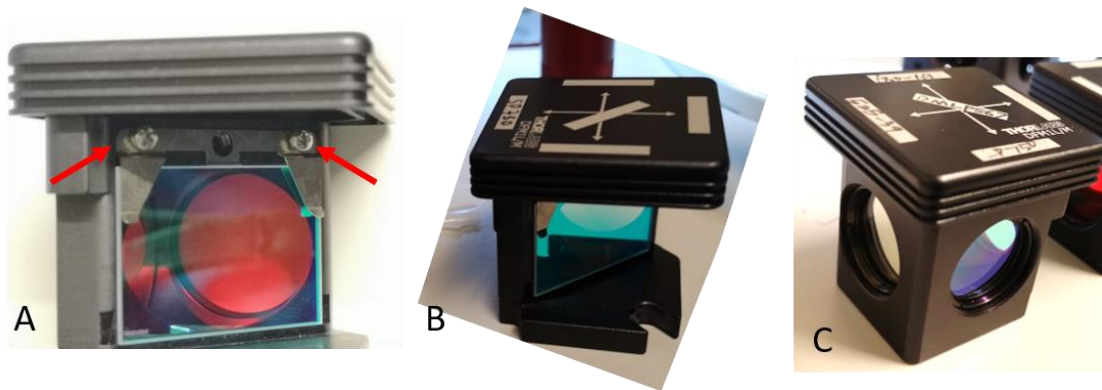

Figure 12: Kinematic cage mounting steps for assembling the dichroic mirror inside the removeable cube top (A-B) and filters on the side ports (C)
**Step41.** Untighten the top two screws with a Phillips #00 screwdriver to loosen the leaf spring and slide the dichroic mirror (item 38) under the clamps (see arrows in Fig.12-A). Place the coated side of the mirror facing the direction from where the laser beam comes from. Tighten the screws enough to hold without breaking the mirror (see Fig.12-B).
**Step42.** Mount back the other half of the cage and prepare the filters to assemble on the next steps (see Fig.12-C)